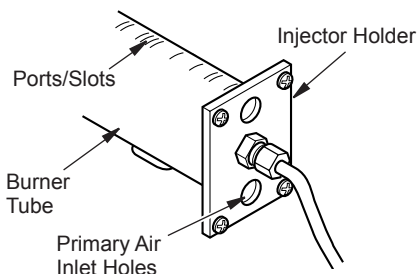

Figure 51 - Injector Holder On Outlet Burner Tube
2. Inspect burner, pilot and primary air inlet holes on injector holder for dust and dirt (see Figure 51).